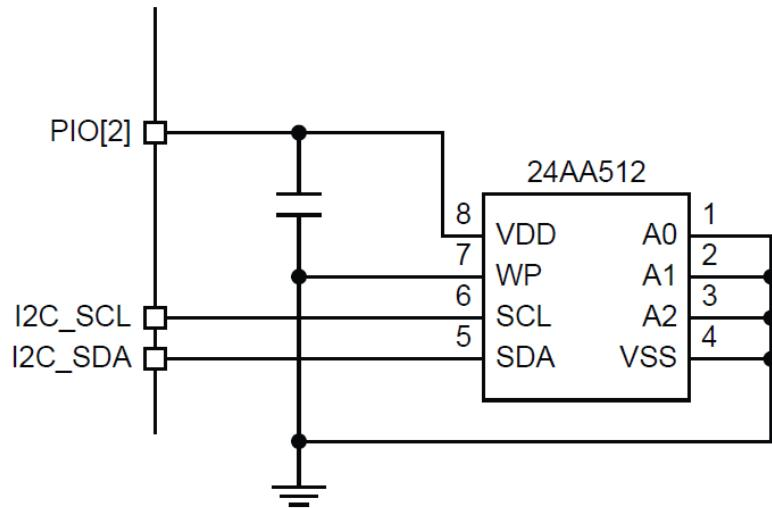

Figure 4.3: Example of I2C – EEPROM connection [1]
The I2C interface communicates to EEPROM, external peripherals or sensors. An external EEPROM connection can hold the program code externally to the CSR1000 QFN. Figure 4.3 shows an example of an EEPROM connected to the I2C interface where I2C\_SCL, I2C\_SDA and PIO[2] are connected to the external EEPROM. The PIO[2] pin supplies the power to the EEPROM supply pin, e.g. VDD.
- Figure 4.3: Example of I2C – EEPROM connection